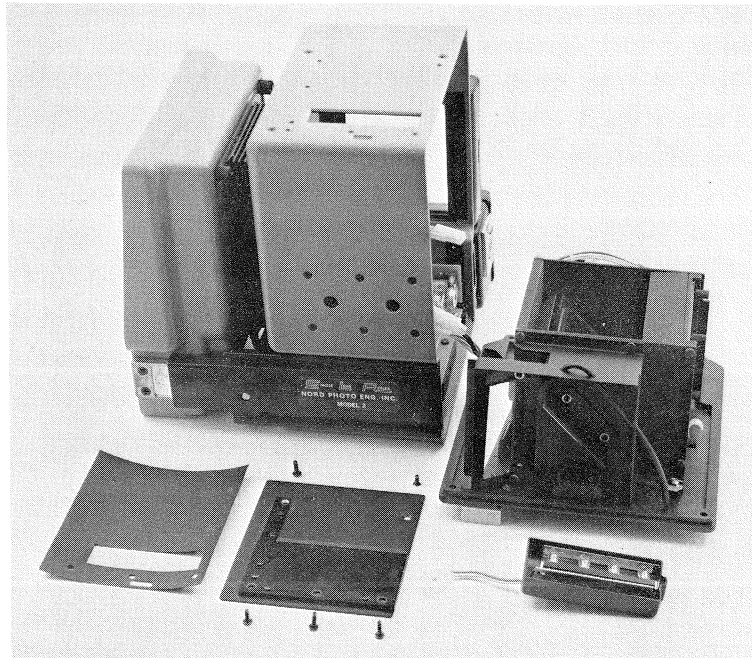

Fig. 1
- c. Insert the five screws shipped loose with the attachment (see Fig. 1 for screw placement) and tighten just enough so as to make it snug.